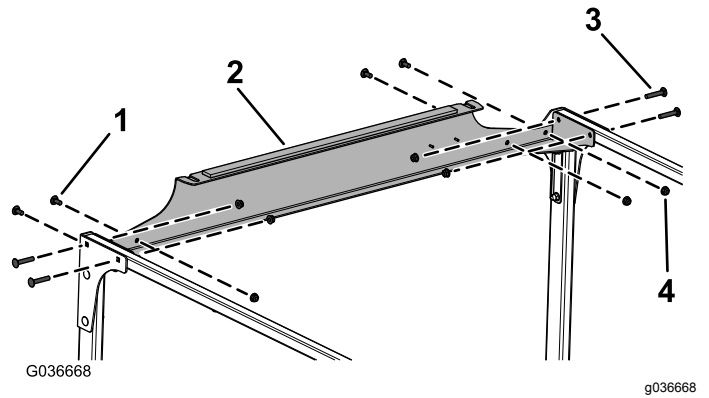

Figure 10
9. Loosely install the rear crosslink to the crosslink tubes and rear plates using 4 carriage bolts (5/16 x 1-3/4 inches), 4 carriage bolts (5/16 x 3/4 inch), and 8 flange nuts (5/16 inch) as shown in Figure 10.